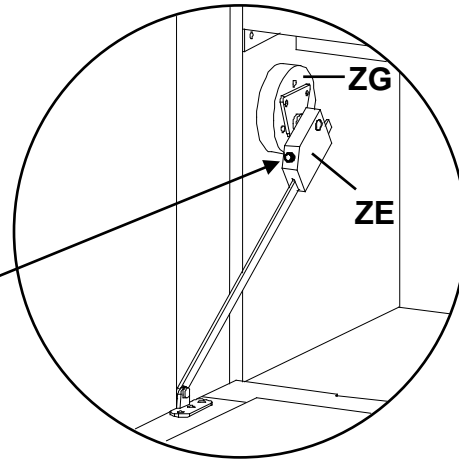

Fig. 5
5. Open the Door (R). To adjust the brake tension on the Door Stay (ZE) turn the screw on the front of the Door Stay clockwise to loosen or counterclockwise to tighten. See Figures 5 and 5a.